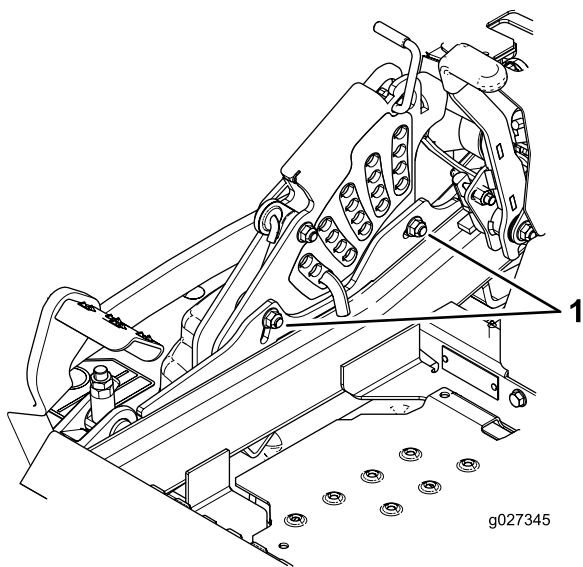

Figure 116
11. To adjust the single-point system, loosen the 2 bolts at the bottom of the height-of-cut plate (Figure 116).
13. Tighten the 2 bolts at the bottom of the height-of-cut plate (Figure 116).